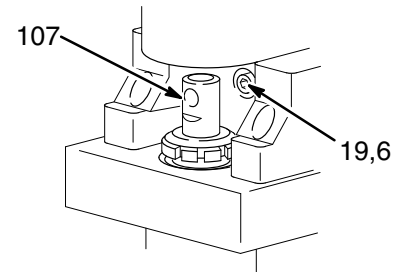

Fig. 21
4. Remove the front cover (13).
5. Turn the displacement pump rod (107) so the pin hole aligns with the bottom drive housing screw (19). See Fig. 21. Remove the three drive housing screws and lockwashers (19,6). Also see Fig. 22.
6. Remove the two motor screws (5) and the lock washers (6).
7. Tap the lower rear of the drive housing (11) with a plastic mallet to loosen the motor. Pull the drive housing straight off the motor while guiding the harness (A) from the motor. Do not allow the gear (16) to fall. Read the CAUTION on page 25.
8. Remove the two screws (46) and lift the motor off the base (66).
9. Align the new motor with the base and reinstall the screws (46).